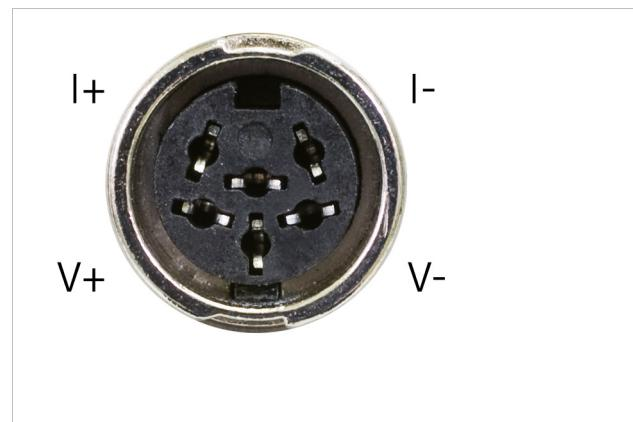

FIGURE 3-4 *Control input connector*
One 6-pin (240°) circular DIN 45322 receptacle is used for the resistive control input. One connector provides both voltage source excitation connections (V) and the current measurement connections (I). The control input mates with one of the 6-pin Circular DIN plugs included with instrument (Lake Shore P/N G-106-233). The control input sensor connector pins are defined in FIGURE 3-4 and TABLE 3-3. Refer to section 4.4 to configure the control input.